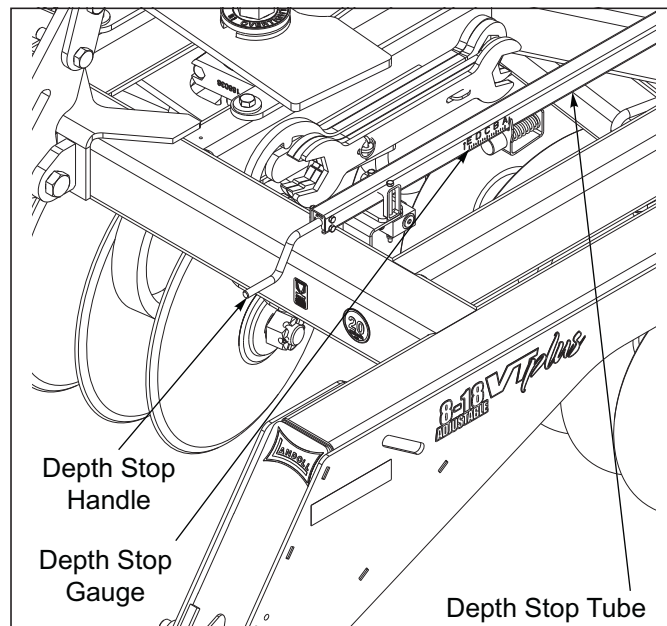

Figure 4-14: Depth Stop Adjustment
1. Adjust the depth stop by turning the handle out (counter-clockwise) to increase operating depth *See Figure 4-14*. Turn the handle in (clockwise) to decrease operating depth. One turn will equal approximately 3/16" adjustment in depth.